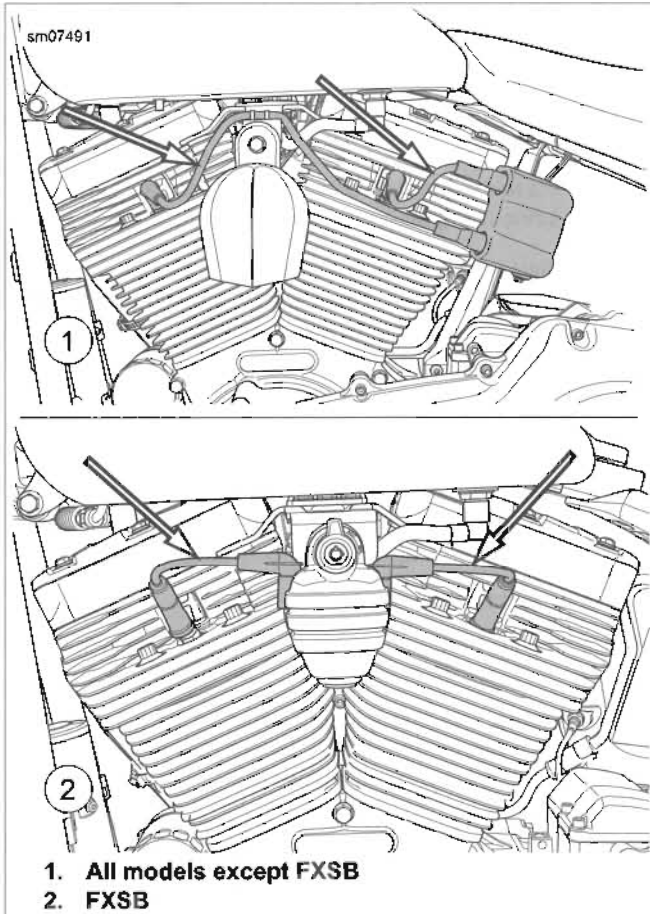

Figure 1-38. Spark Plug Cable Routing
3. See Figure 1-38. Connect spark plug cables. Verify that the cables are connected to coil, spark plugs and anchor clips or harness caddies.